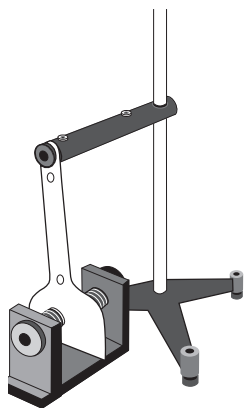

Figure 5
- ② Slowly bring the magnet into position so that the paddle hangs between the poles of the magnet (Figure 5). (If the magnet is moved into position too quickly, the paddle will move). Point out to the class that the paddles are made of aluminum, which is not a ferromagnetic material and is not attracted to magnets.